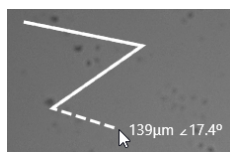

Figure 3-47 Drawing (l), clicking (m) and changing a line (r)
3. Press **LINE** to draw a line, see Figure 3-47.